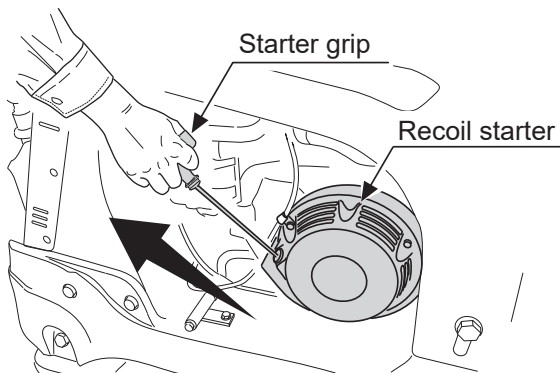

Fig. 11
- 6 Hold the recoil starter grip, and pull it a little. You will feel a slight resistance. Then, pull it hard to run the engine. be careful not to pull too hard, or the rope might break or come off. Allow the starter rope to slowly move back into the case while keeping the grip grabbed. (Fig.11)